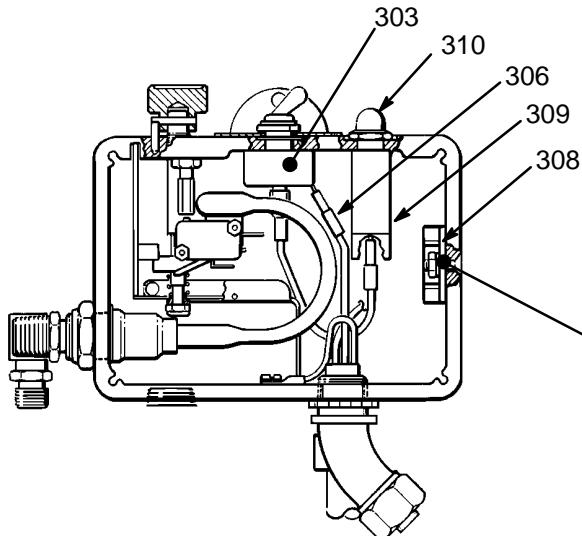

Fig 25-1
The lockwashers (333) must be in front of the bridge to avoid overheating which will result in bridge failure. See the DETAIL in Fig 25-1.
5. Install the front screw (331), lockwasher (333) and nut (332). With the bridge flush to the side of the pressure control, tighten the screws securely.
See Fig 25-1.